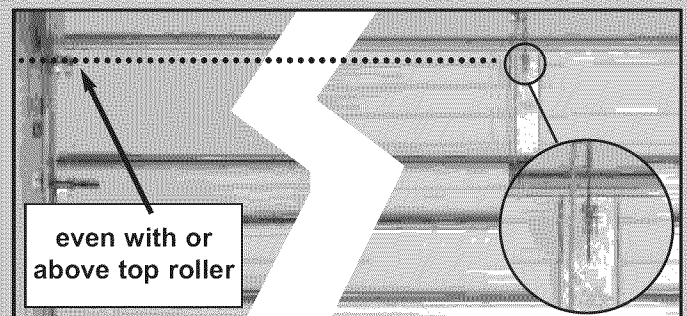

FIG. 2-7 Mounting door Bracket (sectional).
**NOTE:** In the case of sectional type doors, door bracket must be mounted **NO LOWER THAN** top set of rollers (Fig. 2-7).
- Position rail/power head assembly (Fig. 2-7).